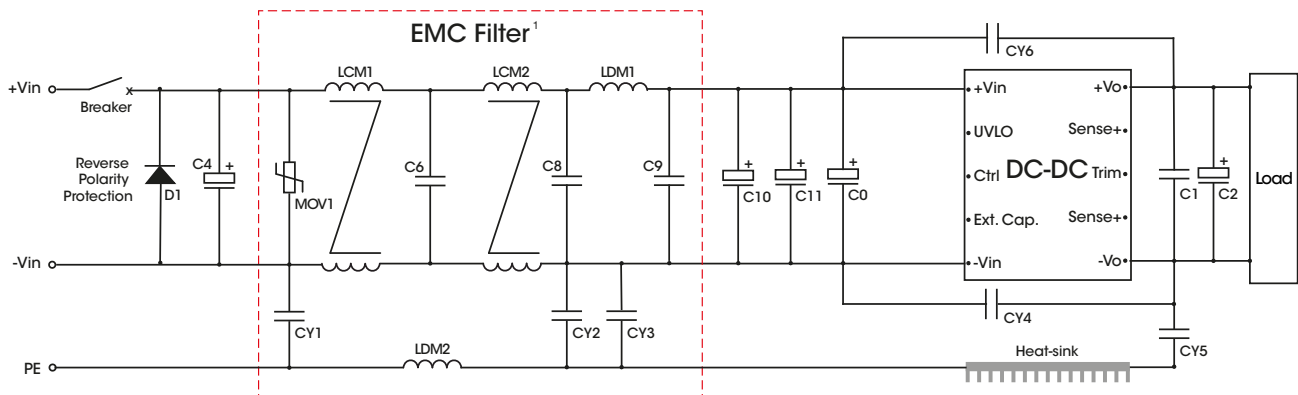

Figure 8. Recommended EMC Filtering
- EMC Filter will be provided in a modular form, here is a recommended circuit and parameters, as shown in Fig. 8. Users can also build it themselves.